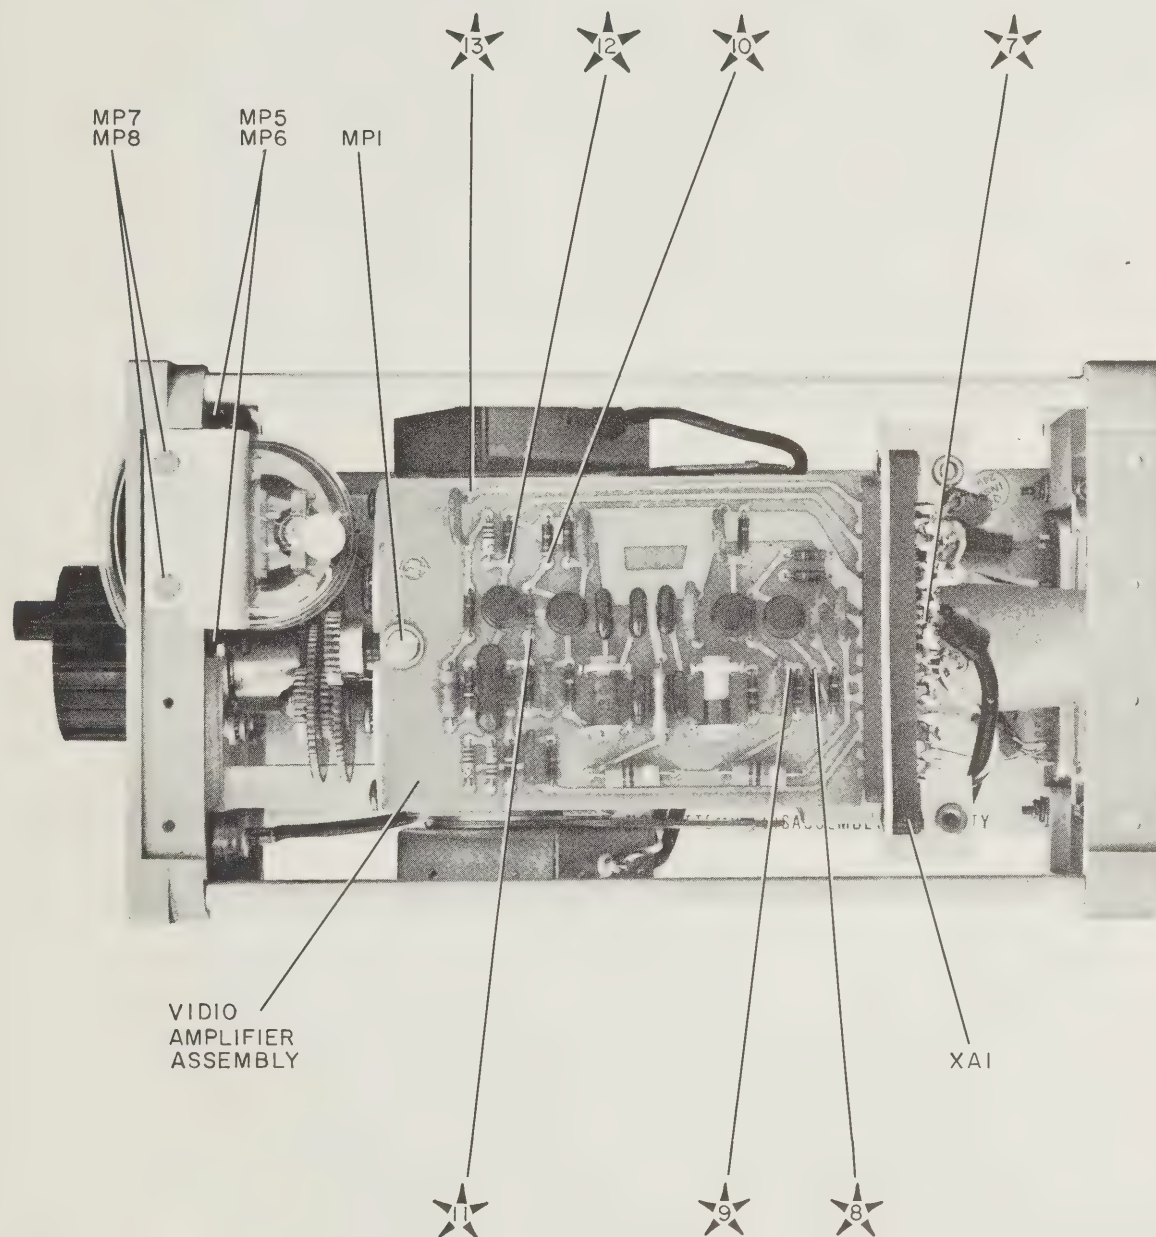

Figure IIA-7. Top View - Test Points
c. Connect RF Millivoltmeter to Test Point #13 (see Figure IIA-7).
- e. Using RF Millivoltmeter, measure output of converter at Test Point #13 (see Figure IIA-7). Voltage should be at least 100 mv.